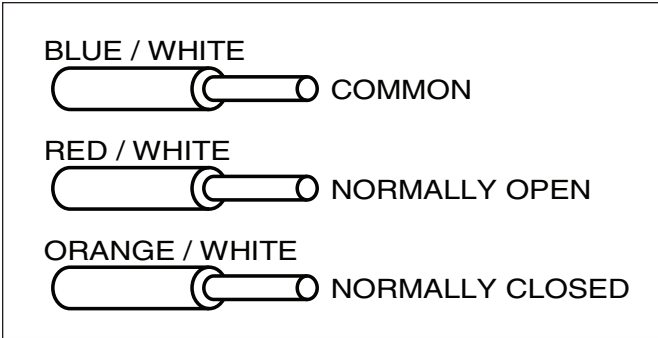

Figure 8. Sidemount form C wires
8. Standard, Standard with Surge Counter, and Power Xpert SPD provide a connector for form C relay contacts. This connection can be used for remote monitoring of the SPD. The form C contacts are rated at 150Vac @ 0.46A or 30Vdc @ 1A. Wire the remote monitoring connections per the form C wiring diagram in Figure 8. Follow all NEC, CEC, state and local electrical codes when making these connections.